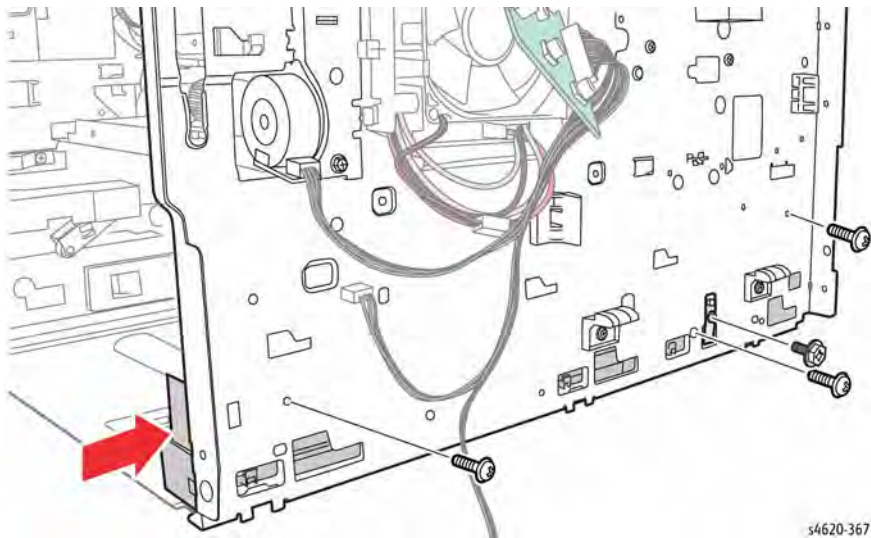

Figure 4 Remove the left lower tray guide
20. Remove 4 (3 plastic, 1 metal) screws that secure the lower left tray guide and ground strap. Remove the ground strap, then slide the guide forward to release the hooks and remove the left lower tray guide from the chassis, Figure 4.